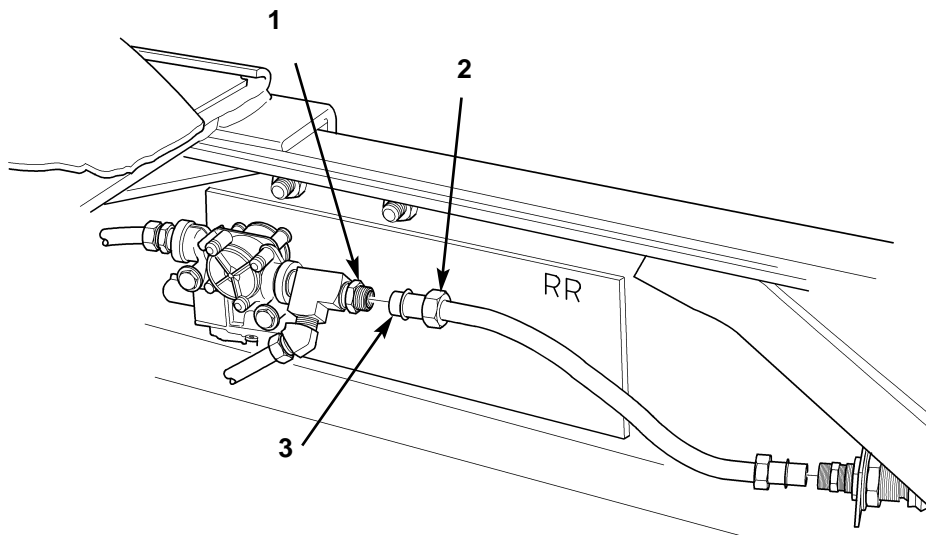

Figure 2. Removing Tube Assembly.
2. Loosen and slide nut (figure 2, item 2) back on tube (figure 2, item 3), and pull tube (figure 2, item 3) out of fitting (figure 2, item 1).
3. Repeat step 2 for opposite end of tube (figure 2, item 3), and remove tube (figure 2, item 3) from any holddown clamps that may be present.